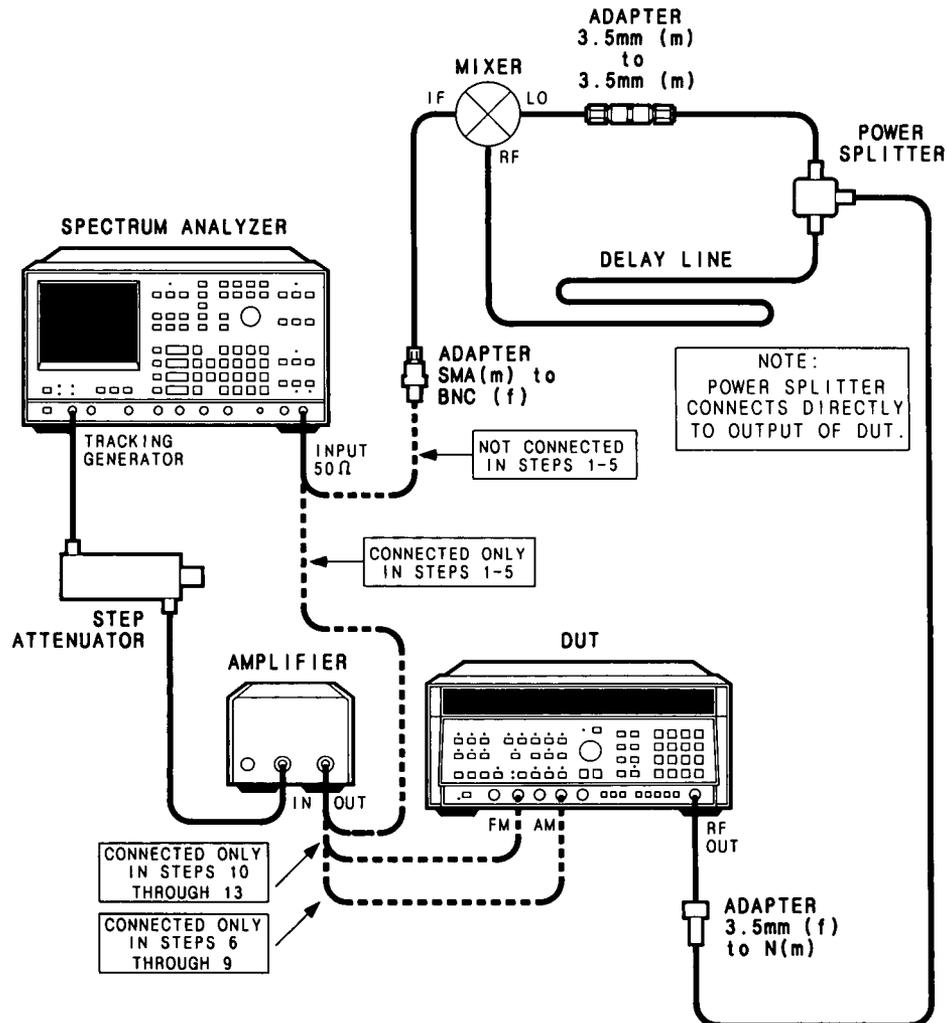

Figure 4-20. FM Flatness Setup
1. Refer to Figure 4-20, FM Flatness Setup. Connect the test equipment as shown. Connect the output of the HP 8447F to the 50 Ohm input of the HP 3585A. The HP 3585A should not be connected to the mixer at this time.